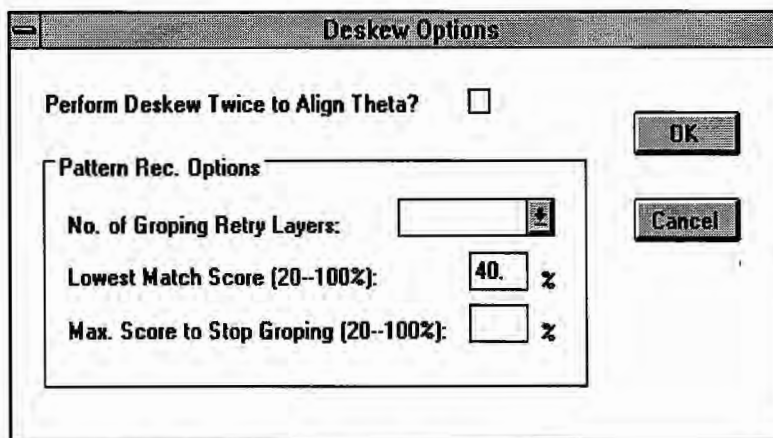

Figure 8-15 Deskew Options Dialog Box
This parameter controls how much of the area around the deskew site is searched for the pattern. Each layer consists of a square area constructed by evenly surrounding the deskew site with squares the size of the camera field of view (Fig. 8-15):
1. From the main Configuration window (Fig. 5-26), click on the Deskew Options button. The Deskew Options dialog box appears (Fig. 8-15).